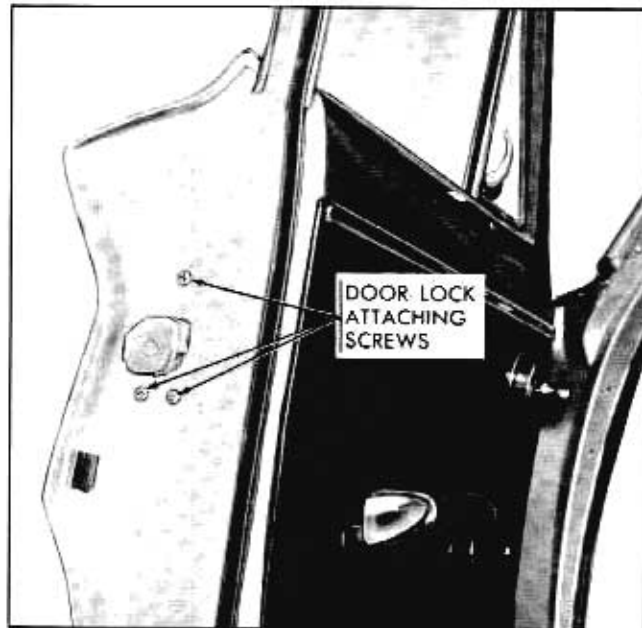

Fig. 10A-30 Door Lock Attachment
4. Remove window regulator attaching screws then work window regulator rearward to disengage arm from window lower sash channel cam and remove regulator from door (Fig. 10A-29).